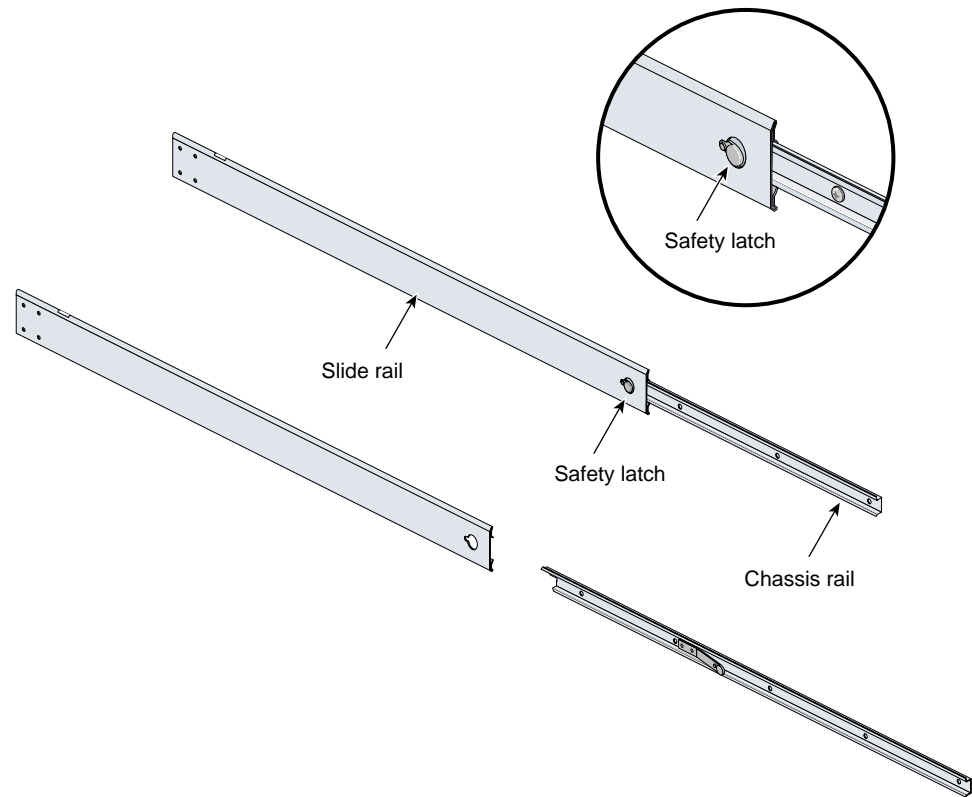

Figure C-6 Removing the Chassis Rail from the Slide Rail
3. Press the safety latch and remove the chassis rail from the slide rail, as shown in Figure C-6.